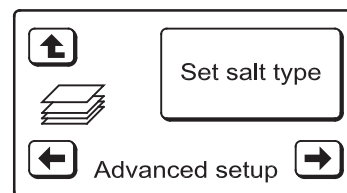

FIG. 67
4. Press the RIGHT (→) button to display the screen shown in Figure 67.